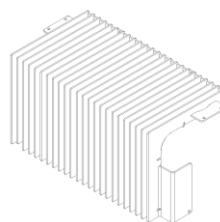

**Figure 99 – Securing the cover**
- b) Fit the front grille, matching the holes in the grille to the holes in the appliance (Figure 99).